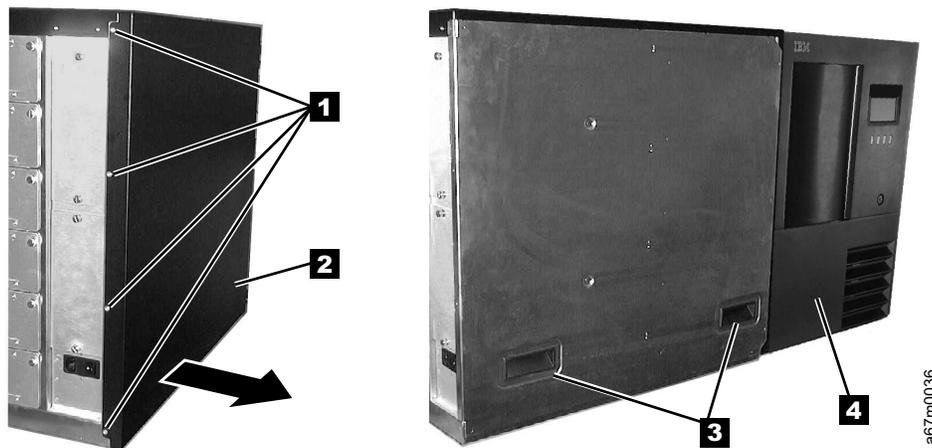

Figure 7-49. Side Cover Removal and Replacement
See Figure 7-49 for locations of components in the following procedure.
4. Remove the four Phillips screws **1** as shown in Figure 7-49. After removing the Phillips screws, the cover **2** can only be removed if you open the front door.
See Figure 7-49 on page 7-57 for locations of components in the following procedure.